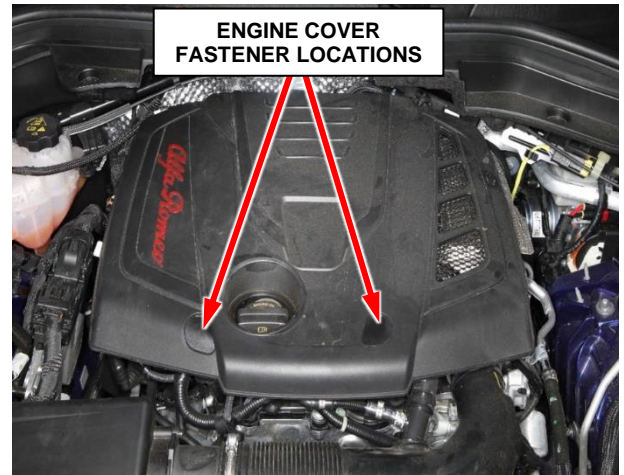

Figure 7 – Engine Cover
- Using a small blade screwdriver or equivalent pry on the engine cover caps to access the engine cover fasteners and remove the cover (Figure 7).
22. Align and install the engine cover and fasten the screws securely (Figure 7).